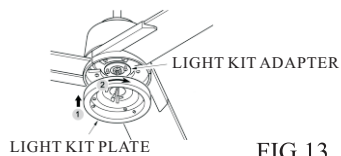

FIG.13
2. Gently pull the wire through light kit plate. Have the key hole over the loosened screws. Turn the light kit plate until it gets the end of the narrow end. Then, tighten the previously removed and loosened screws. (See Fig 13 & 14)